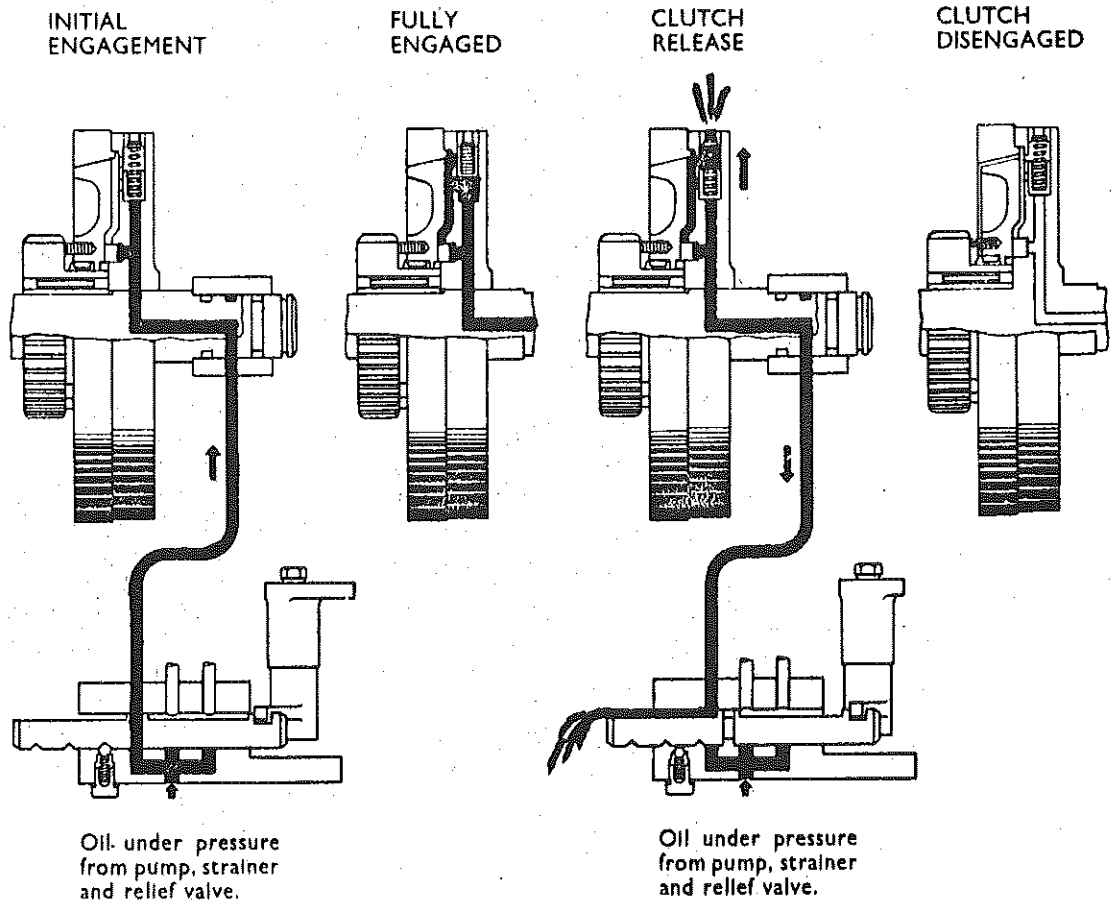

Fig. 34. SEQUENCE OF CLUTCH OPERATION
Oil from the control valve is fed through a muff on the clutch shaft (H) and, by way of axial drillings through the shaft to the clutch. The oil pressurises the back of the pilot ring (F) in the clutch, bringing the male and female cones (C) and (B) into contact, giving partial engagement (See Fig. 34). This initial pressure seals the cavity between the spinner and the housing of the clutch, thereby allowing pressure to build up and overcome the spring loaded valve (E) and apply full pressure behind the clutch spinner (See B Fig. 34). This permits full transmission of torque through the gears and provides a smooth take up of load on starting or with change of speed.
Movement of the control lever to neutral or other gear position cuts off the supply of oil to the clutch assembly and permits oil to escape along a slot in the selector valve. The resultant pressure drop allows the spring loaded valve (E) to expose the exhaust port permitting oil to flow radially outwards from the back of the spinner. The spinner is then moved out of engagement by the springs (See C Fig. 34).